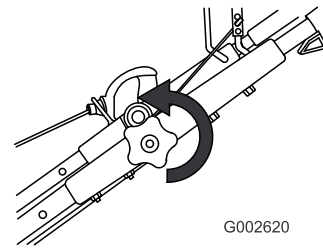

Figure 16
1. Loosen the upper handle knob (Figure 16).